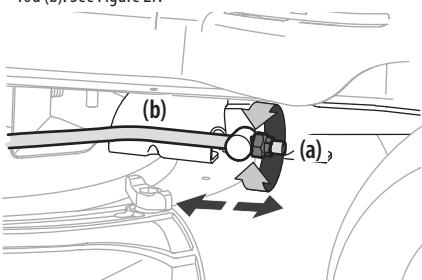

Figure 27
3. Locate the flange lock nut (a) on the front end of the PTO lift rod (b). See Figure 27.